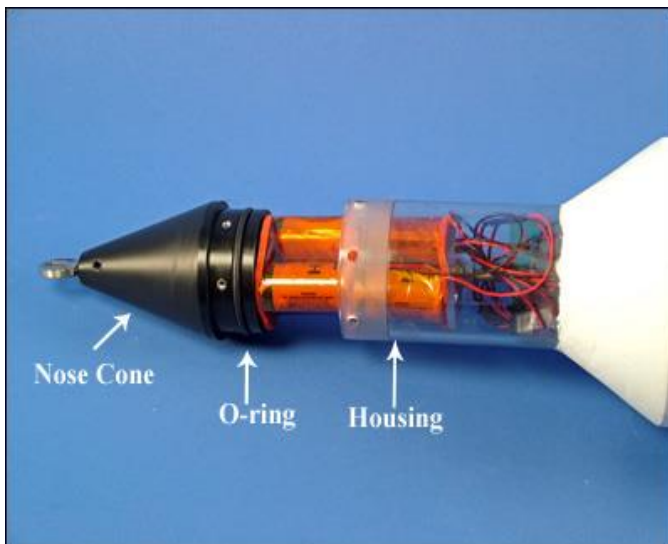

Fig. 10 Nose cone and battery assemblies ready to be installed in the housing.
5. Gather battery leads together and carefully insert the assembled connectors and leads back into the housing. **(Fig. 10)** Inspect to make sure the power leads are not pinched between polycarbonate battery retainer plate and the housing. Coat the O-ring and the sealing surface of the housing with a thin coating of high vacuum grease to ensure a good seal. Apply a small amount of anti-seize compound into each of the nose cone screw holes. At this point the nose cone battery assembly can be pressed into the housing. Align the screw holes of the nose cone with the holes in the housing and install the 6-32 x 1/4" socket head cap screws and snug them securely in place.